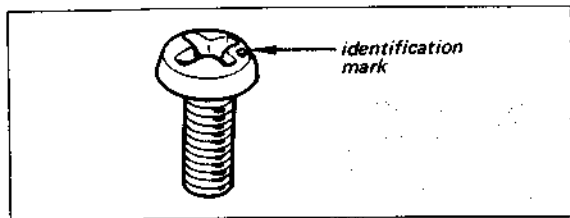

Fig. 2-1. ISO screw
**Note:** All screws in the STR-6065 are manufactured to the specifications of the International Organization for Standardization (ISO). This means that the new and old screws are not interchangeable because ISO screws have a different number of threads per mm compared to the old ones. The ISO screws have an identification mark on their heads as shown in Fig. 2-1.